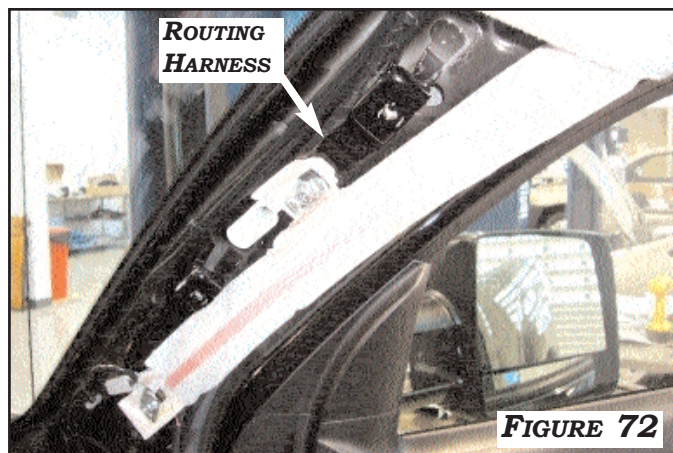

FIGURE 72
1. ROUTE **CAMERA EXTENSION HARNESS** AND **MIRROR POWER HARNESS** (RED, BLACK AND WHITE WIRES) ABOVE HEADLINER TO DRIVER-SIDE A-PILLAR. ROUTE HARNESSES DOWN THE A-PILLAR USING THE FACTORY RETAINING CLIPS OR FOAM TAPE WHENEVER POSSIBLE. IF THE VEHICLE HAS SIDE CURTAIN AIRBAGS, BE SURE TO SECURE THE HARNESS SO THAT IT DOES NOT INTERFERE WITH AIRBAG DEPLOYMENT. ROUTE THE HARNESSES FROM THE A-PILLAR TO THE KICK PANEL. **FIGURE 72**